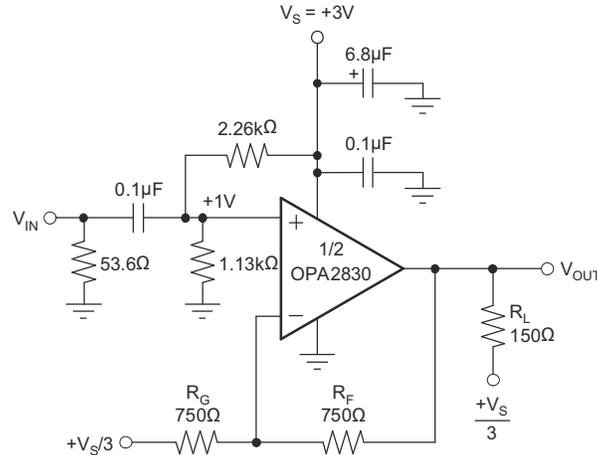
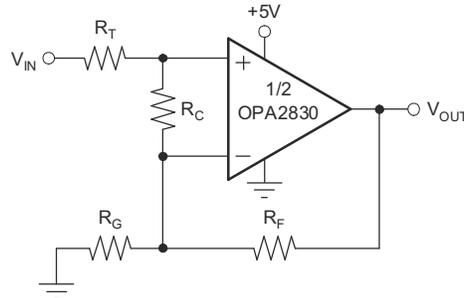

図 8-2. AC-Coupled, G = +2, 3V Single-Supply Specification and Test Circuit
Figure 8-8. Compensated Noninverting Amplifier
at $T_A = 25^\circ C$, $G = +2V/V$, and $R_L = 150\Omega$ to $V_S/3$ (unless otherwise noted); see also Figure 8-2
図 8-2 shows the ac-coupled, gain of +2 configuration used for the 3V *Specifications* and *Typical Characteristics*. Voltage swings reported in the *Electrical Characteristics* are taken directly at the input and output pins. For the circuit of 図 8-2, the total effective load on the output at high frequencies is 150Ω || 1500Ω. The 1.13kΩ and 2.26kΩ resistors at the noninverting input provide the common-mode bias voltage. The parallel combination equals the dc resistance at the inverting input (R_F), reducing the dc output offset due to input bias current.
Figure 8-8 shows a noninverting amplifier that reduces peaking at low gains. The resistor R_C compensates the OPA2830 to have higher Noise Gain (NG), which reduces the ac response peaking (typically 4dB at $G = +1$ without R_C) without changing the dc gain. V_{IN} needs to be a low impedance source, such as an op amp.
Frequency response in a gain of +2 can be modified to achieve exceptional flatness simply by increasing the noise gain to 3. One method, without affecting the +2 signal gain, is to add a 2.55kΩ resistor across the two inputs (see Figure 8-8). A similar technique can be used to reduce peaking in unity-gain (voltage follower) applications. For example, by using a 750Ω feedback resistor along with a 750Ω resistor across the two op amp inputs, the voltage follower response is similar to the gain of +2 response of Figure 8-2. Further reducing the value of the resistor across the op amp inputs, further dampen the frequency response due to increased noise gain. The OPA2830 exhibits minimal bandwidth reduction going to single-supply (5V) operation as compared with ±5V. This minimal reduction is because the internal bias control circuitry retains nearly constant quiescent current as the total supply voltage between the supply pins is changed.
The criterion for setting this R_S resistor is a maximum bandwidth, flat frequency response at the load. For a gain of +2, the frequency response at the output pin is already slightly peaked without the capacitive load, requiring relatively high values of R_S to flatten the response at the load. Increasing the noise gain also reduces the peaking (see Figure 8-8).